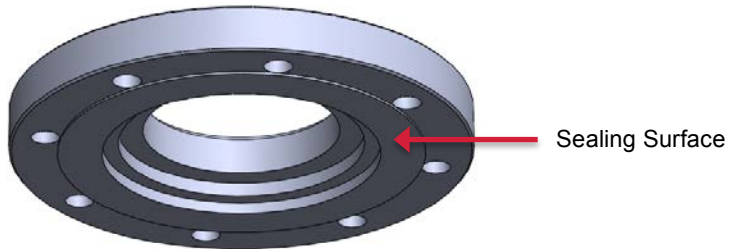

Figure 4-8 Valve-Body Sealing Surface
- 4.1.6.1 On the underside of the valve body (item 4) is the surface that seals the valve to the mounting plate on the railcar (Figure 4-8). Machining of this surface is permitted. A good seating surface is necessary to ensure there are no leaks in this area.